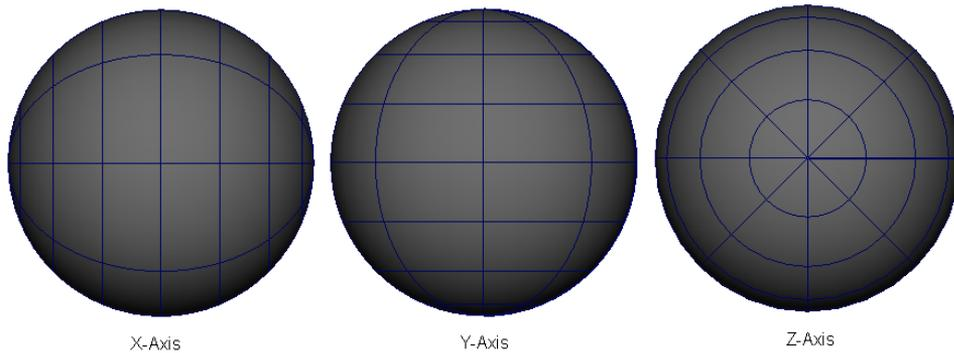

Figure 3-7 Spheres created on X, Y, and Z axes
**Axis:** The **Axis** option is used to set the axis for creating a NURBS sphere. It has three radio buttons: **X**, **Y**, and **Z**. By default, the **Y** radio button is selected. You can use these radio buttons to set the axis for creating a NURBS sphere. Figure 3-7 shows the NURBS spheres created on X, Y, and Z axes.